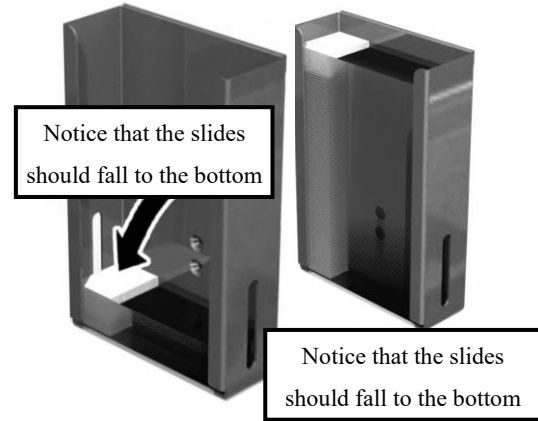

Figure 8-2
2) After the tail of the slides brace against the edge of the magazine, position the slides until as flat as shown in Figure 8-2.